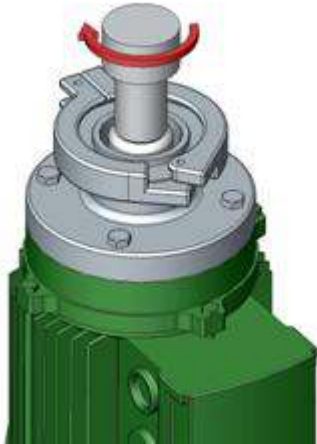

Fig. 5.4.1
2. Rotation direction. The proper rotation direction is clockwise see fig 5.4.1.